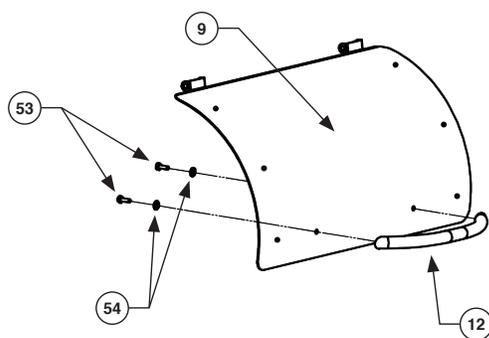
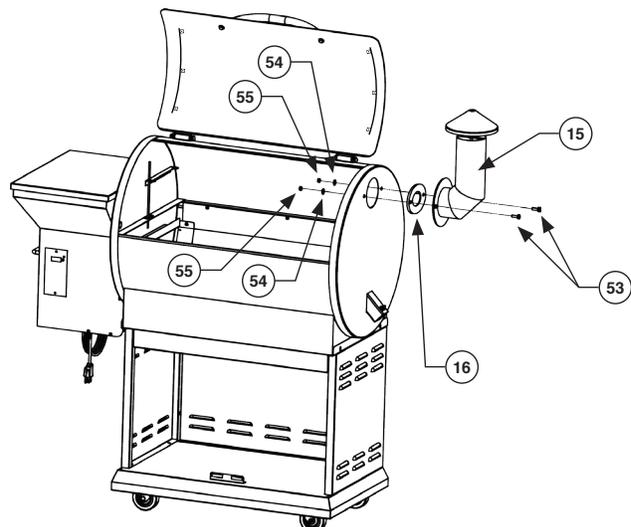

FIG 7
FIG 8
Penetrate ¼-20*½ Hexagon Bolt (53) through (Ø18*Ø6.5*2.0mm) Washer (54) and Lid (9) directly to the Handle (12) and tighten up. Do not overtighten the bolt. As shown in FIG 7.
1. Align the holes in the Smoke Stack (15) with the holes in the Smoke Stack Gasket (16), which fits between right end of the Grill and the Smoke Stack Gasket (16). Insert the ¼-20* ½ Hexagon Bolts through the holes in the Smoke Stack (15) and the Smoke Stack Gasket (16).
2. Place a (Ø18*Ø6.5*2.0mm) Washer (54) on each bolt and secure with ¼-20 Hexagon Nut (55). As shown in FIG 8.